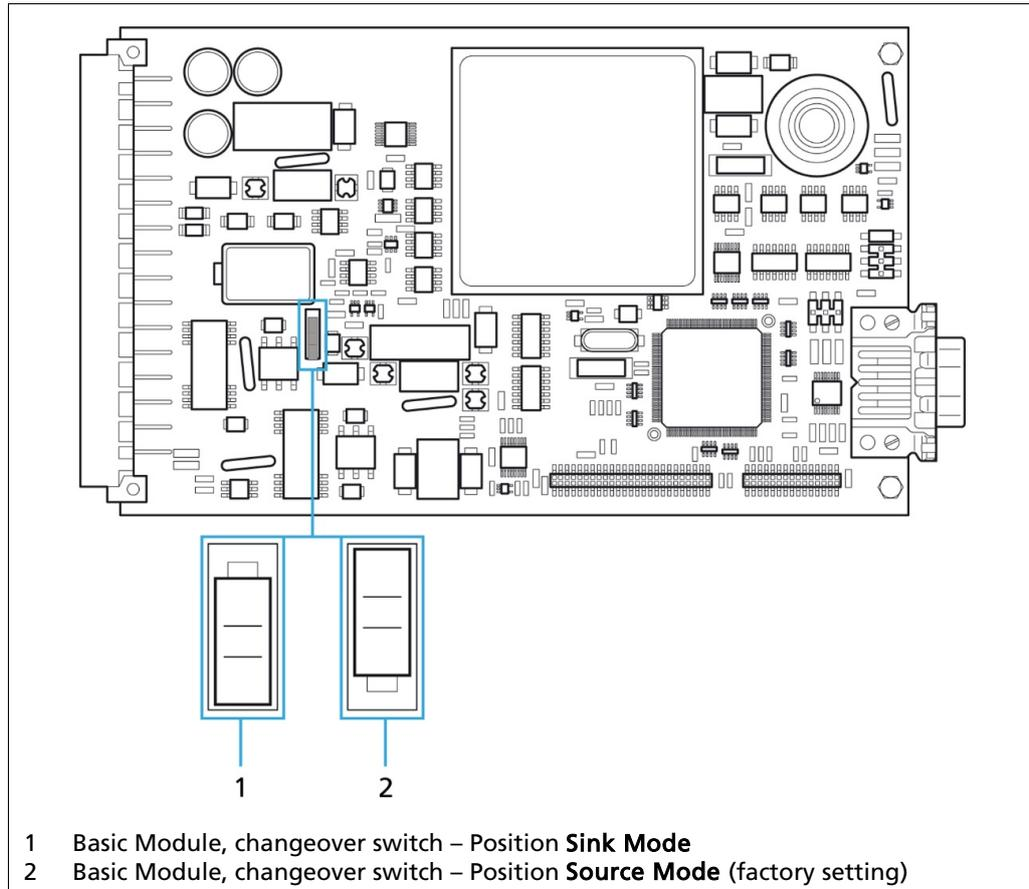

Fig. 11 Switching on the Basic Module Current Output at the Changeover Switch
- Set the desired position at the changeover switch (**Sink Mode** (Fig. 11, Item1) or Position **Source Mode** (Fig. 11, Item 2).